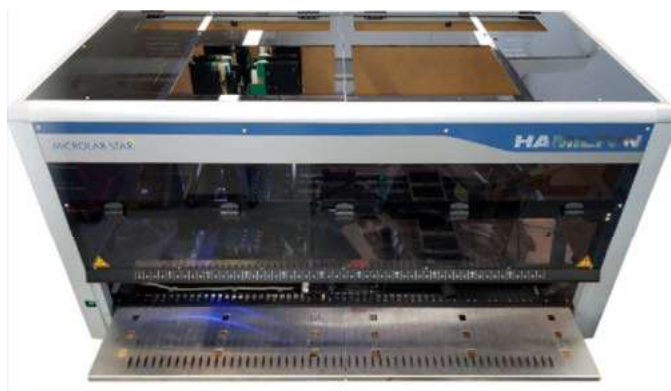

Figure 2-16: UV Light Kit top panel
2. Install the top panel using the screws that are used to install the standard top panels. (Figure 2-16). Use panel 6603712-02/-03 or 6603845-02/-03.